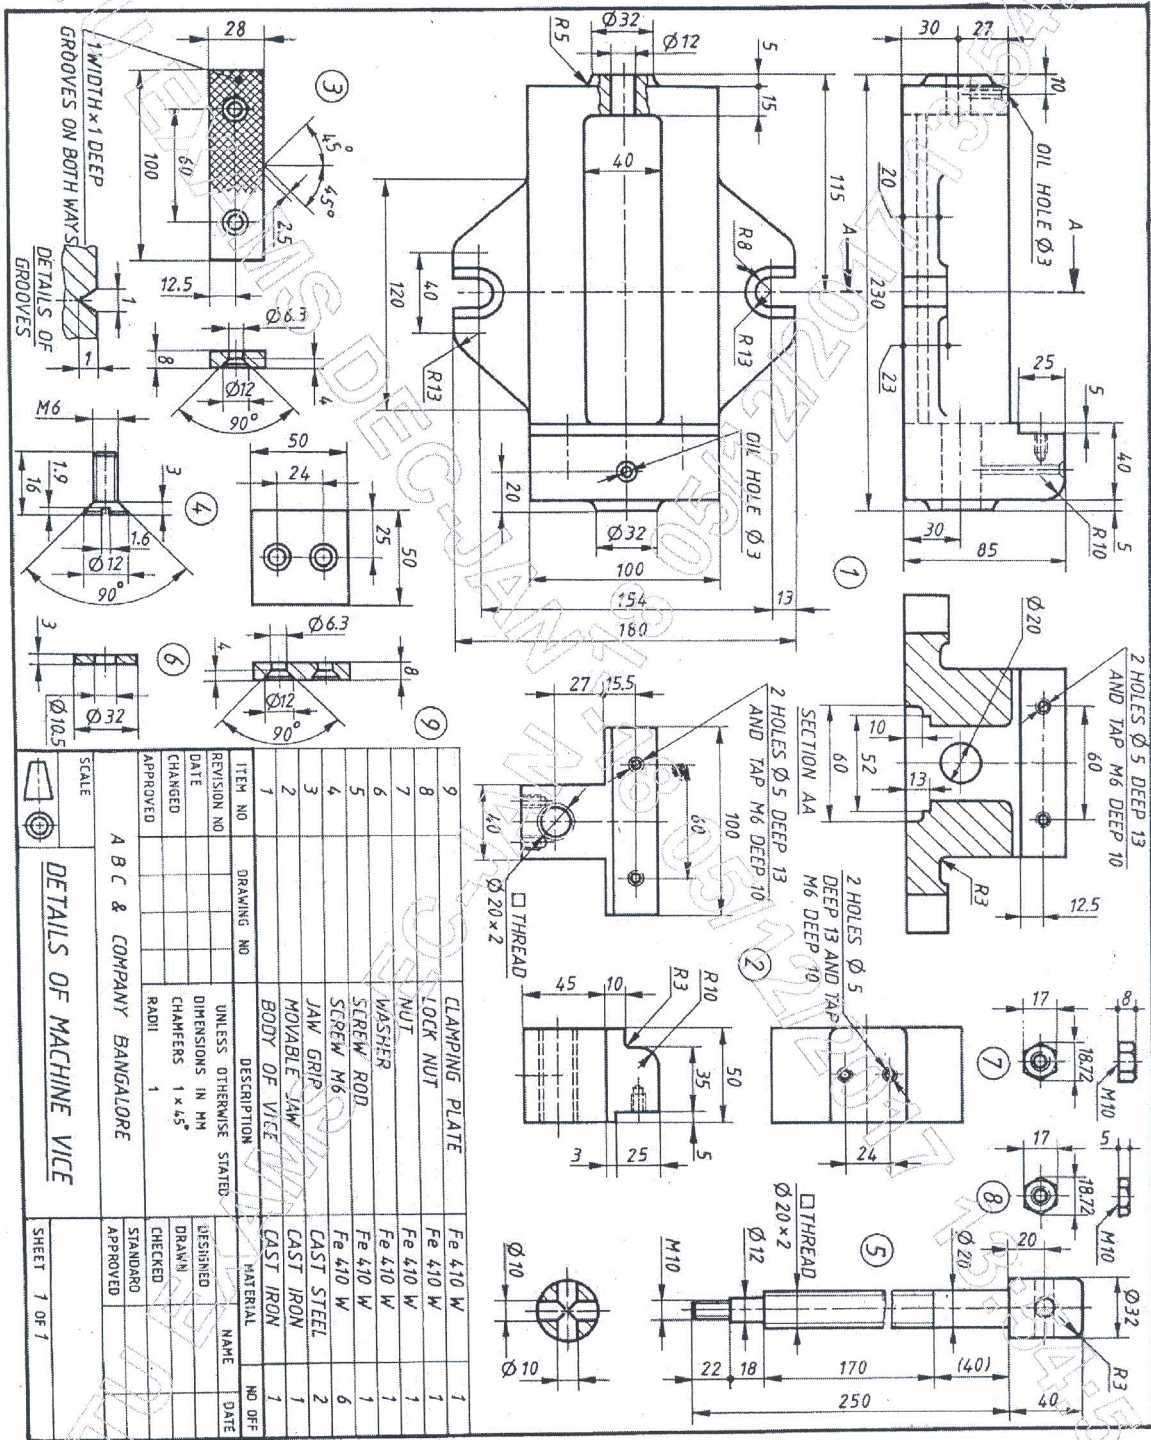

Figure 2. "MACHINE VICE"
- Q.No.6** Details of "MACHINE VICE" is shown in following Figure 2. Assemble the parts and draw the following views.